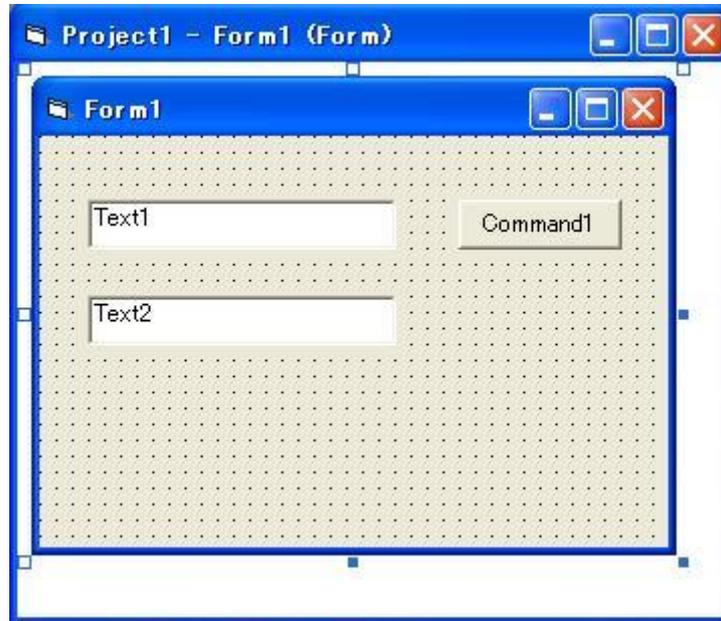

Figure4-3 Making of form
- (3) Next, make the form with 2 text boxes and one button as shown in Figure4-3. In this application, when Internet Protocol address is input in text box (Text1), and button (Command1) is pressed, the transmission result of Ping is displayed to text box (Text2).